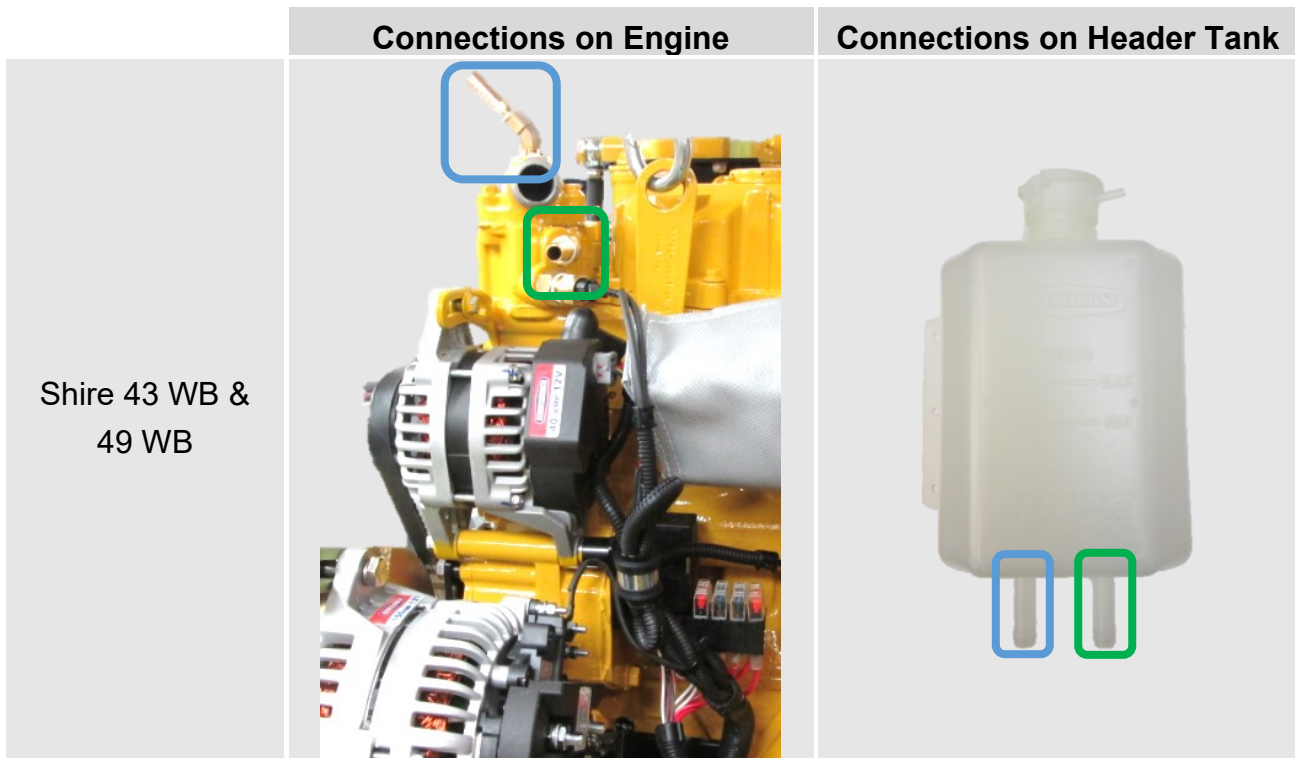

Figure 10: Header Tank Connections
- The connections for the Header Tank are shown on **(Figure 10)**